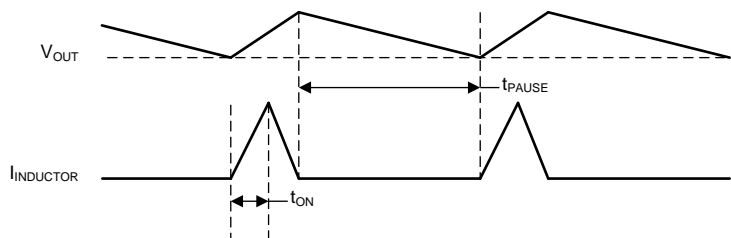

Figure 3. Power Save Mode Waveform Diagram
- Added Figure 3 to power save mode section
During PAUSE period in PSM (shown in Figure 3), the device does not change the PG pin state nor does it detect an UVLO event, in order to achieve a minimum quiescent current and maintain high efficiency at light loads.